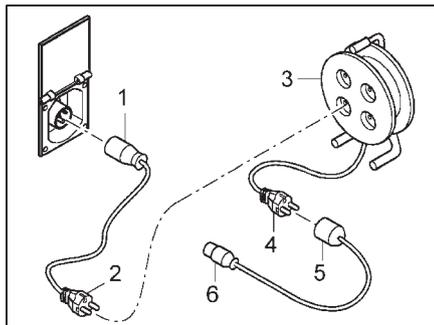

Fig. 71 Connection options for 230 V power connection
- Adapter cable: CEE17 socket with earth contact (Fig. 71,1) – Plug with earth contact (Fig. 71,2)
- Cable reel: Socket with earth contact (Fig. 71,3) – Plug with earth contact (Fig. 71,4)
- Adapter cable: Socket with earth contact (Fig. 71,5) – CEE17 plug with earth contact (Fig. 71,6)